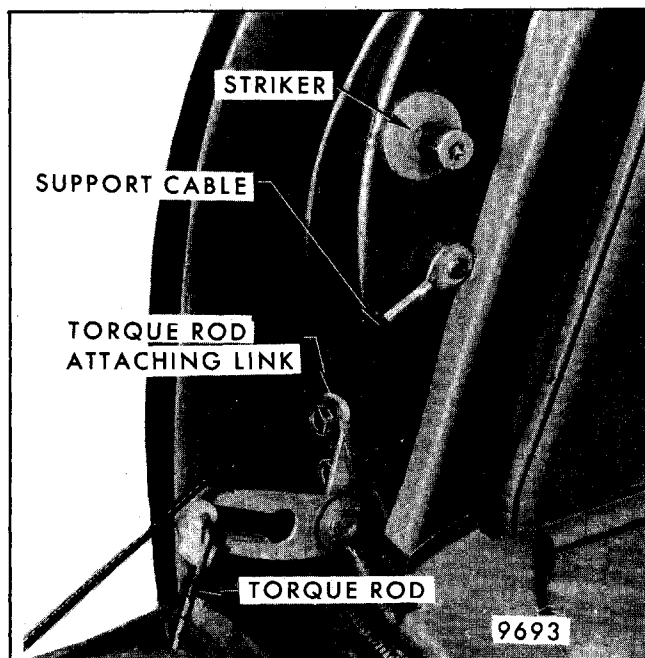

Fig. 7-110 - Back Body Pillar, A-35 Style
1. Position tailgate sufficiently to achieve a neutral torque rod position, or until tension on torque rod has been relieved. Mark position of torque rod assist link on back body pillar and remove assist link (Fig. 7-110).
Removal and Installation (Fig. 7-110)